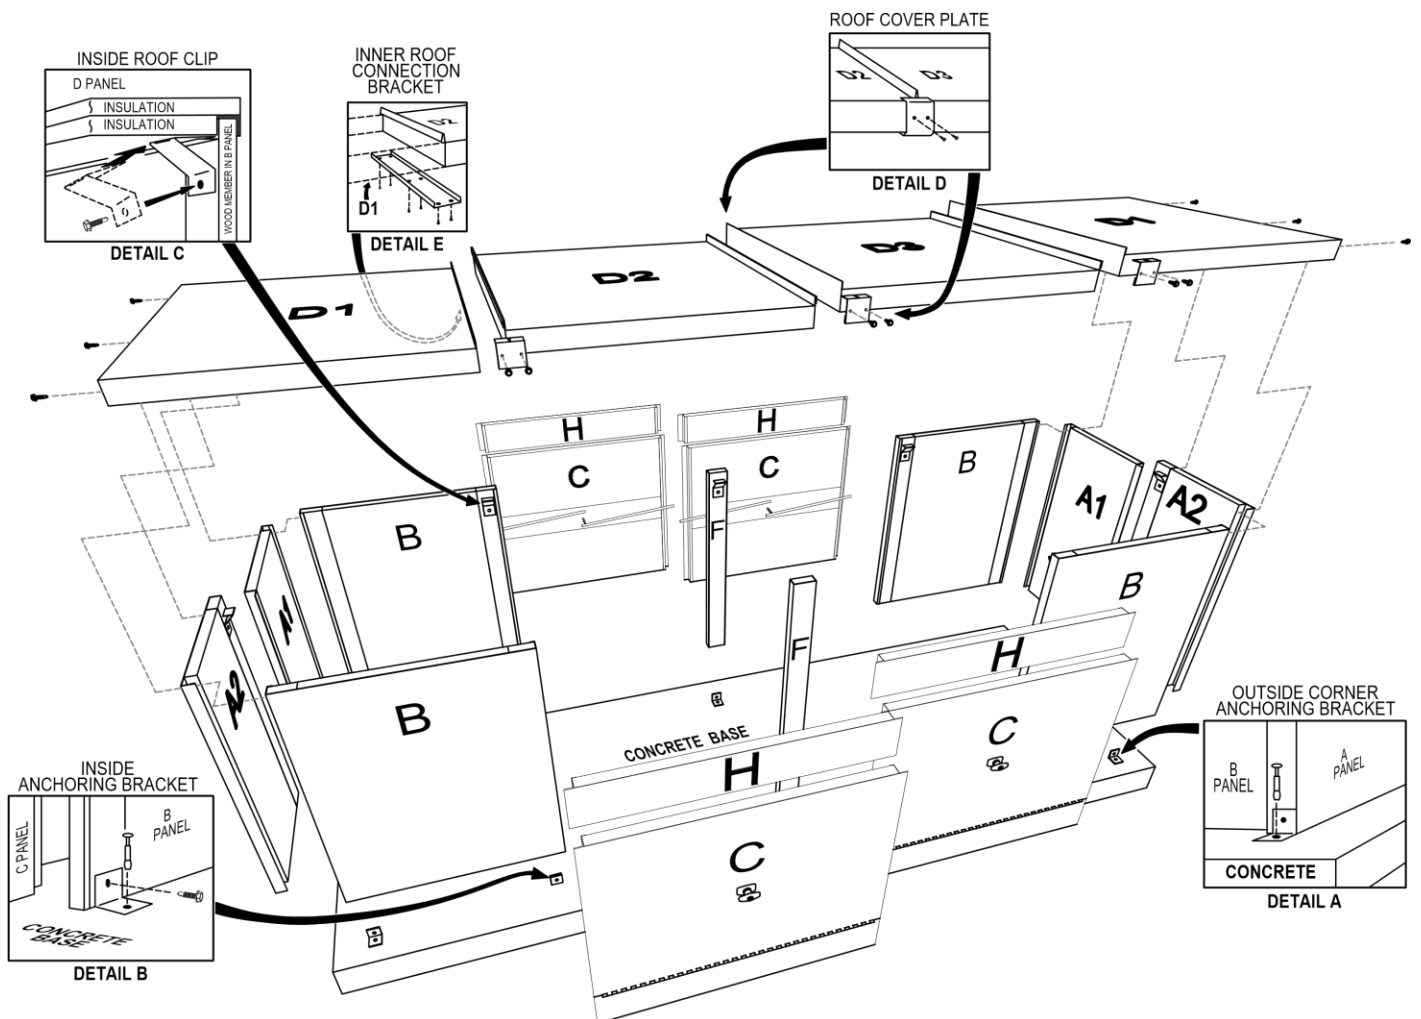

FIG. 2
10. Set one of the “D1” (roof) panels on a “B-A-B” (corner-end-corner) assembly and then fasten them together at the marked locations (Fig. 2) using nine (9) Hex Head Screws. Screws should fasten to the wooden studs to resist strong winds.